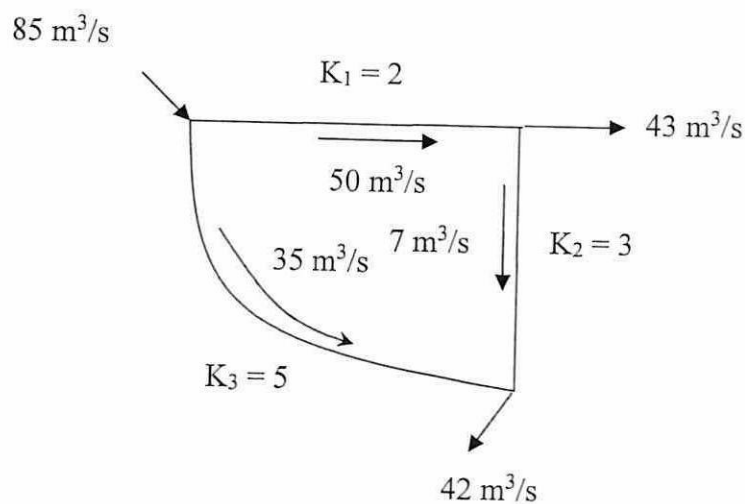

Figure Q4.1 A loop pipe system
- (d) The flow into and out of a loop pipe system is shown in **Figure Q4.1** with the K values for each pipe were given and $n = 2$. Estimate the flow in each pipe and ΔQ from first trial by using Hardy Cross Method.